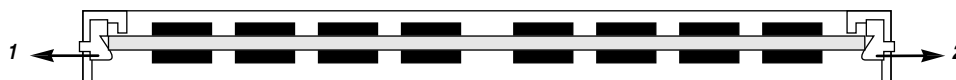

Figure 5-6 Releasing the SIMM spring clips
- 2. To release a SIM M strip, push outward on the spring clip on one side of the SIM M strip. Then while supporting the SIM M, push outward on the other spring clip to release the SIM M from its socket. (See Figure 5-6, arrows marked 1 and 2.)**